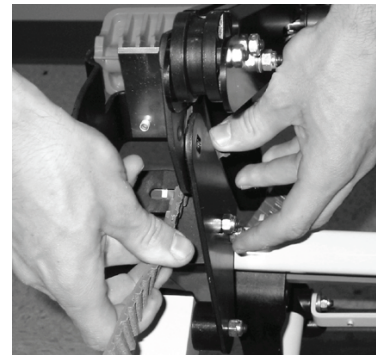

Figure 9 – Remove the worn belts
6. Remove the belts by threading them through the wheel support plate on the side where the parts were removed (Figure 9).